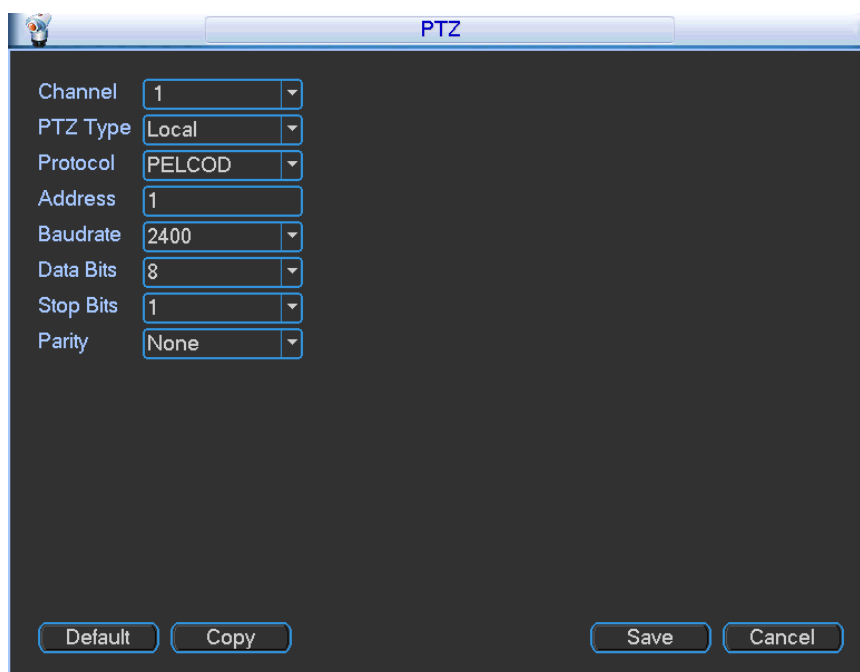
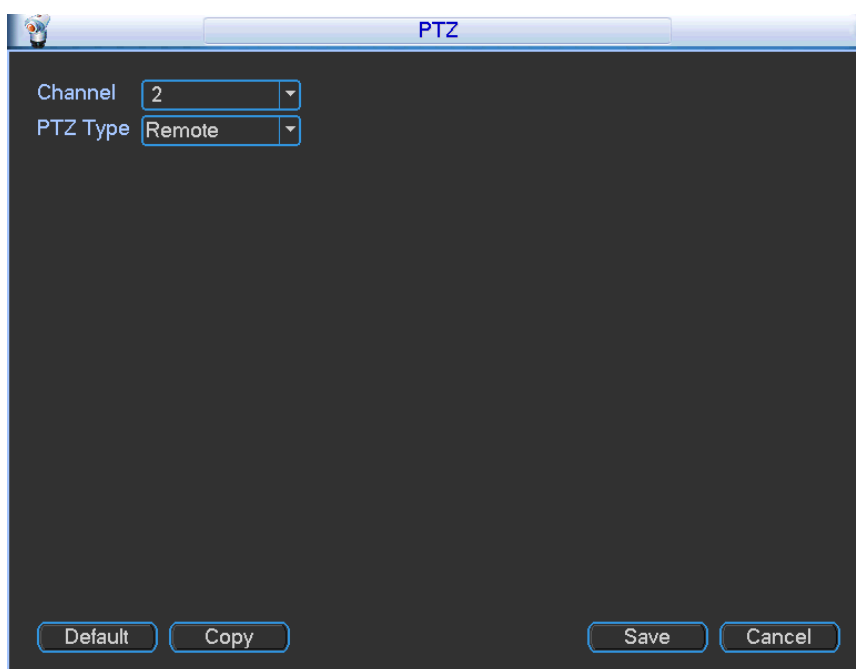

Figure 4-65
Figure 4-66
In the main menu, click setting, and then click Pan/Tilt Control button. The interface is shown as in Figure 4-65. Here you can set the following items:
- PTZ type: There are two types: local/remote. Please select local mode if you are connect RS485 cable to connect to the Speed dome (PTZ). See Figure 4-65. Please select remote mode if you are connecting to the network PTZ camera. See Figure 4-66.